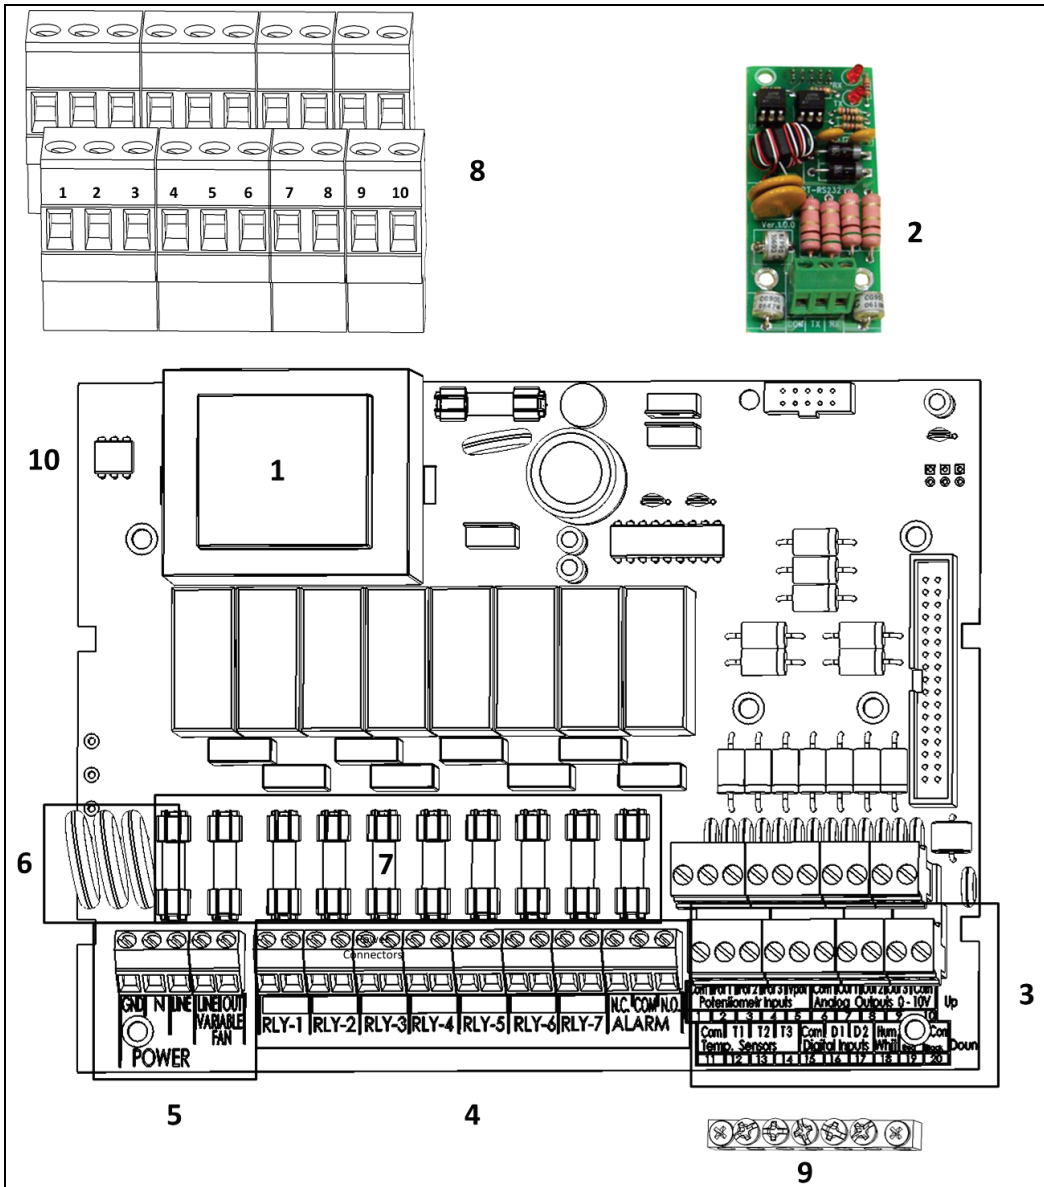

Figure 1: Smart C Board Layout
- Figure 1: Smart C Board Layout
Figure 1 key